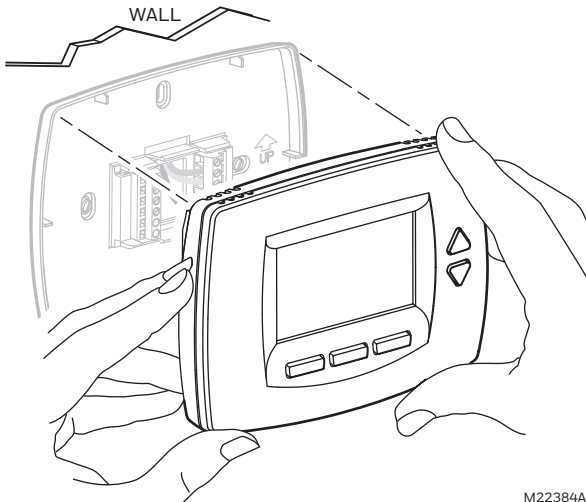

Fig. 38. Removing thermostat from subbase.
1. Remove the thermostat from the base by pulling it straight out. (See Fig. 38.)